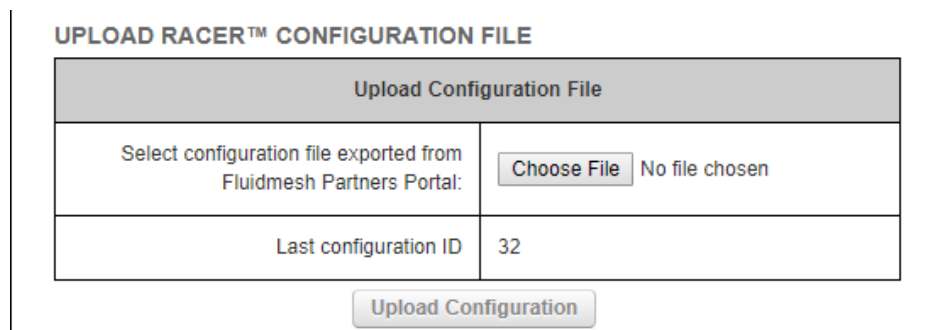

Figure 22. Configurator interface (FM Racer configuration file upload dialog)
3. Click the **Choose File** button in the **Upload Configuration File** section (Figure 22 \(page 56\)).